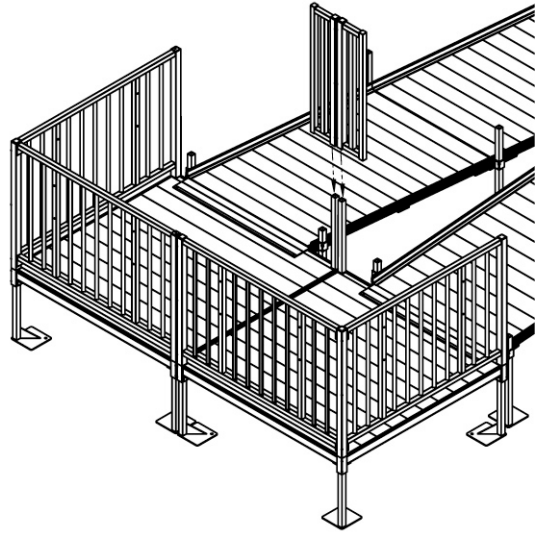

FIG. 26
- 5.4.1 Both platforms will use the same guard components as above except in mirror image (shown in FIG. 26).